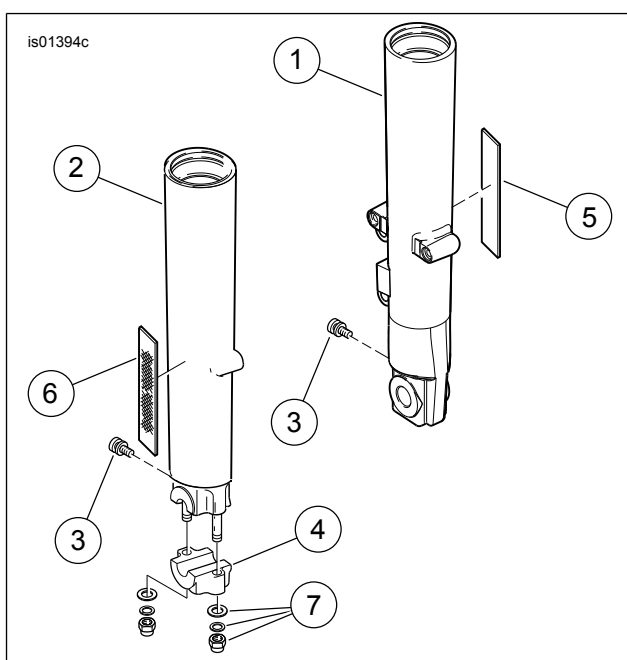
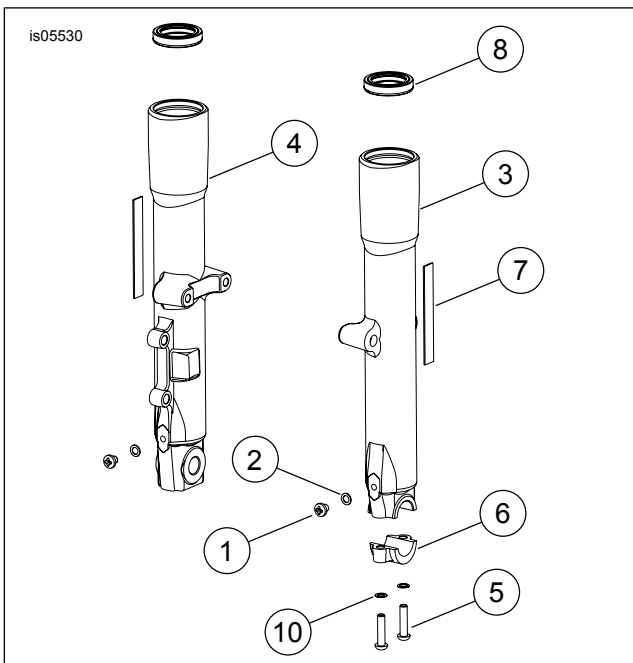

Figure 2. Service Parts: Chrome Fork Sliders - Early Models
Figure 3. Service Parts: Chrome Slider Kits - Later Models
See Figure 2, Table 1, Figure 3 and Table 2.
5. **For 2000 and Later Models EXCEPT Touring:** See Figure 1. Using a piece of dental floss (or similar material) in a back and forth motion, loosen reflector from fork slider at both ends. Rotate reflector from side-to-side until it can be removed. Save reflector for future use. See Figure 2. Repeat procedure on the opposite side fork slider. Peel off any excess adhesive from both reflectors. Surface must be clean for installation.
- Early Models with 39 mm forks (see Figure 2): Tighten to 13-17 **in-lbs** (1.5-1.9 Nm)
- Early Models with 41 mm forks (see Figure 2): Tighten to 52-78 **in-lbs** (5.8-8.8 Nm)
- Later Models (see Figure 3): Tighten to 52-78 **in-lbs** (5.8-8.8 Nm)